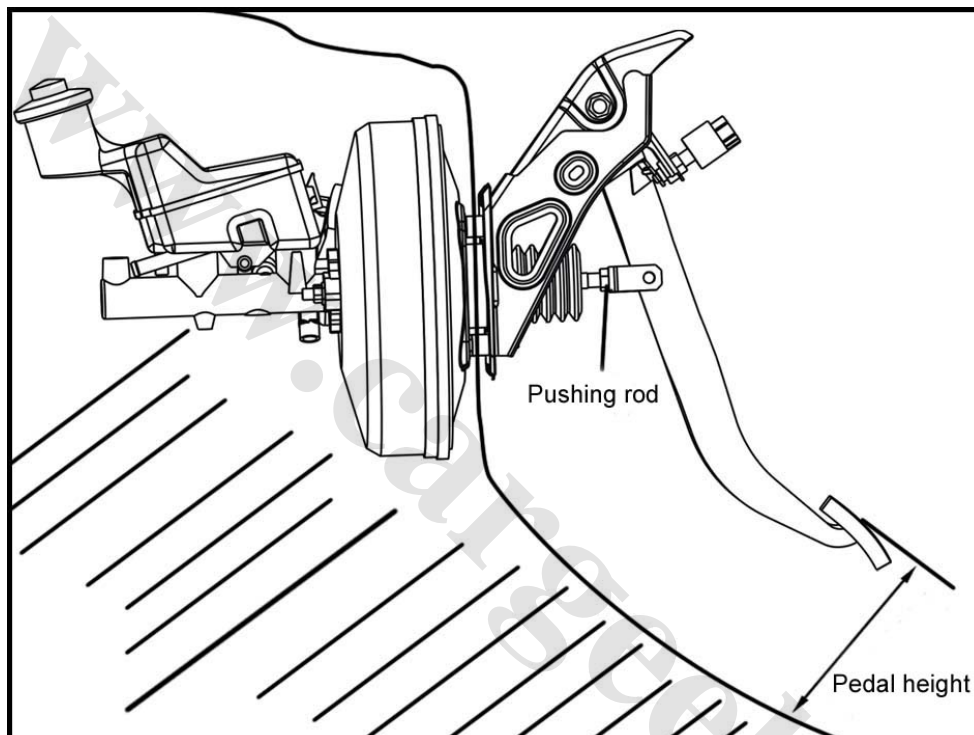

Fig. 2-43
1. Check the pedal height as shown in Fig. 2-43. Height above floor: 136mm-146mm.